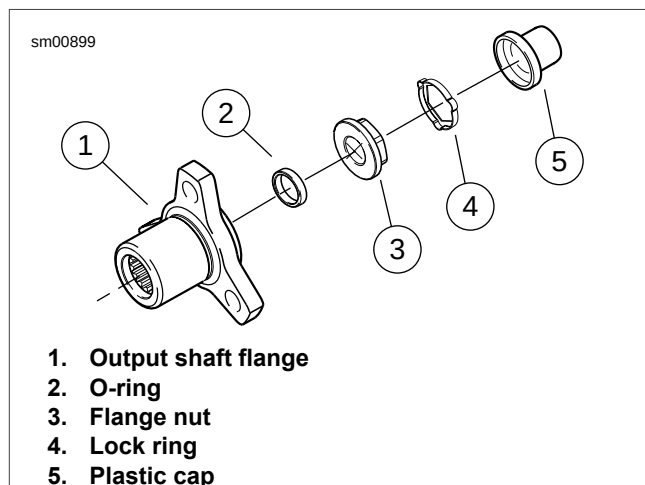
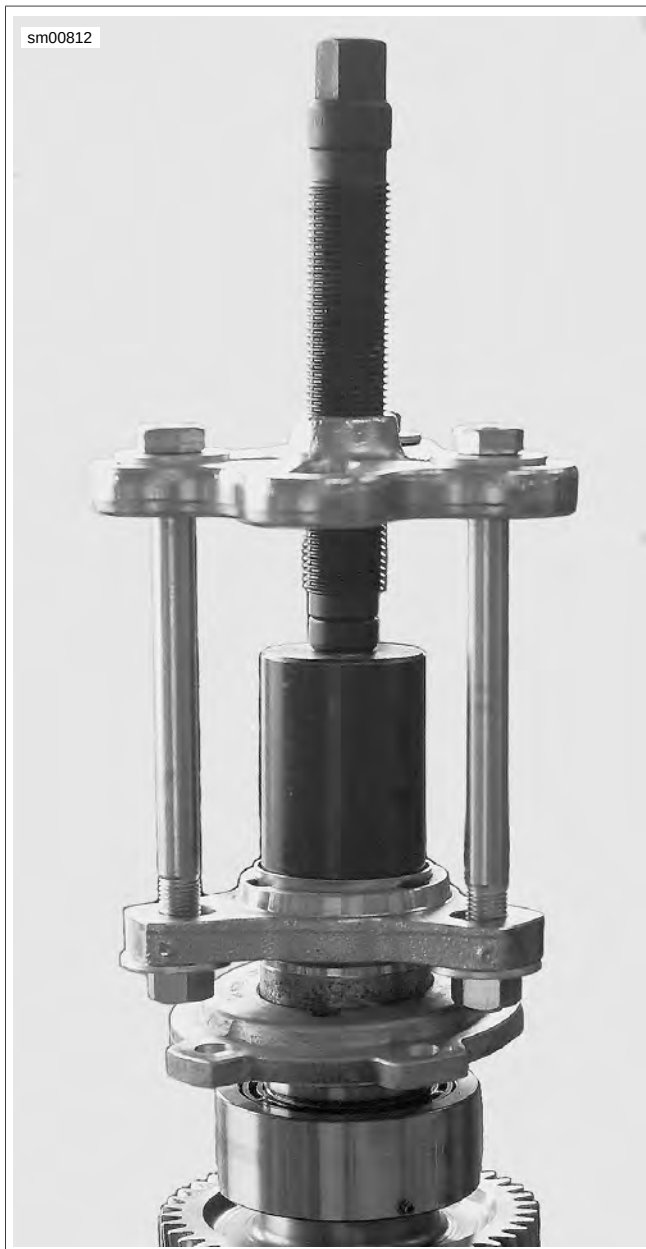

Figure 6-108. Output Shaft Components
Figure 6-109. Crimping Output Shaft Nut Lock-Ring
7. See Figure 6-108. Install a **new** O-ring (2) behind a **new** drive sprocket flange nut (3). Install the **new** flange nut (3). Tighten nut to 160 Nm (118 ft-lbs).
8. Position lock ring (4) over flange nut (3).
9. See Figure 6-109. Install a METRIC BOLT GRIP PULLER SET (Part No. Snap-on CJ2001) with three 3/8 x 5 inch bolts onto the flange and shaft. Turn screw down against the FINAL DRIVE SPROCKET LOCKING DEVICE INSTALLER (Part No. HD-45332) to crimp lock ring in position.
10. See Figure 6-108. Install plastic cap (5).